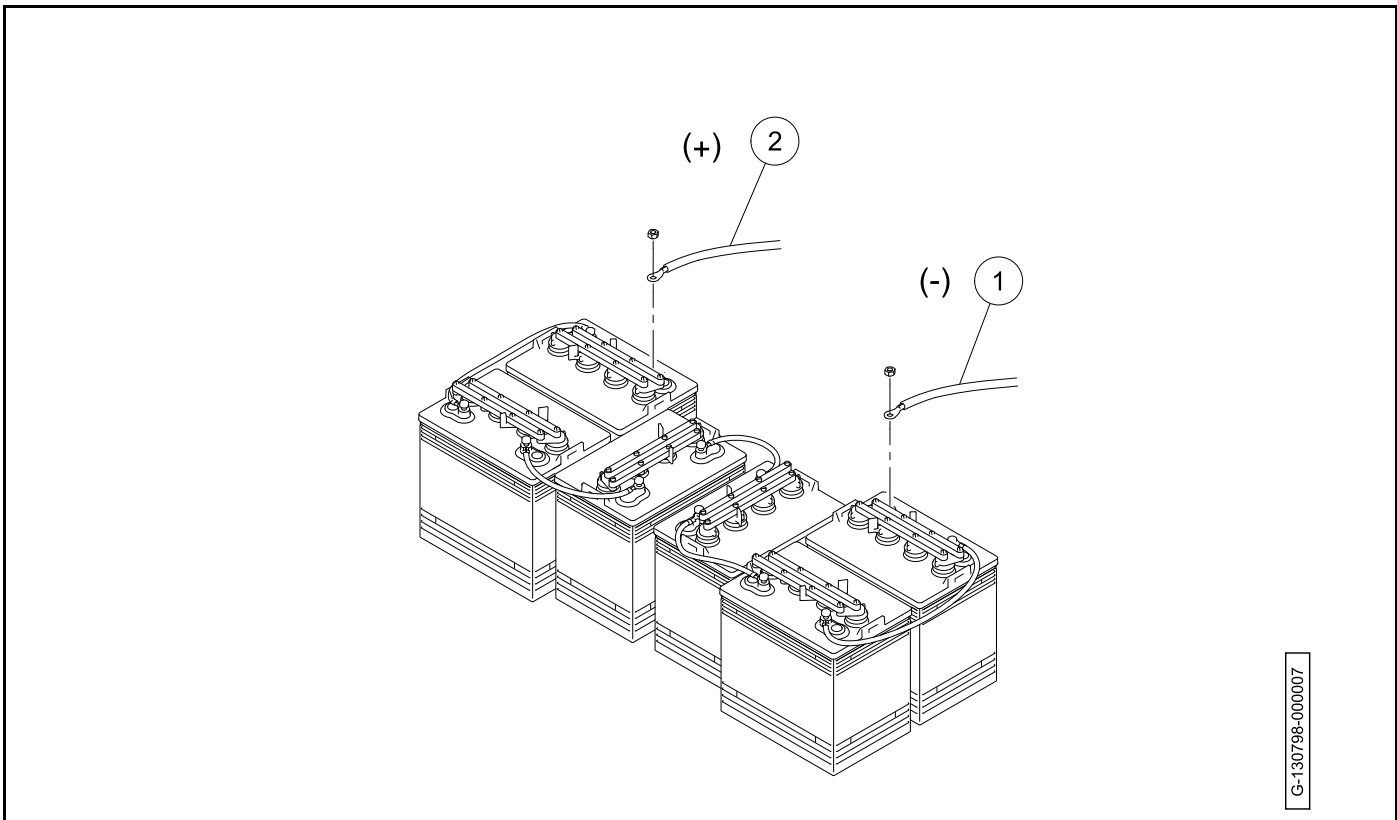

Figure 1-2 Disconnect Electric Vehicle Batteries
3. Disconnect the negative (-) cable (1) (Figure 1-2, Page 1-4).